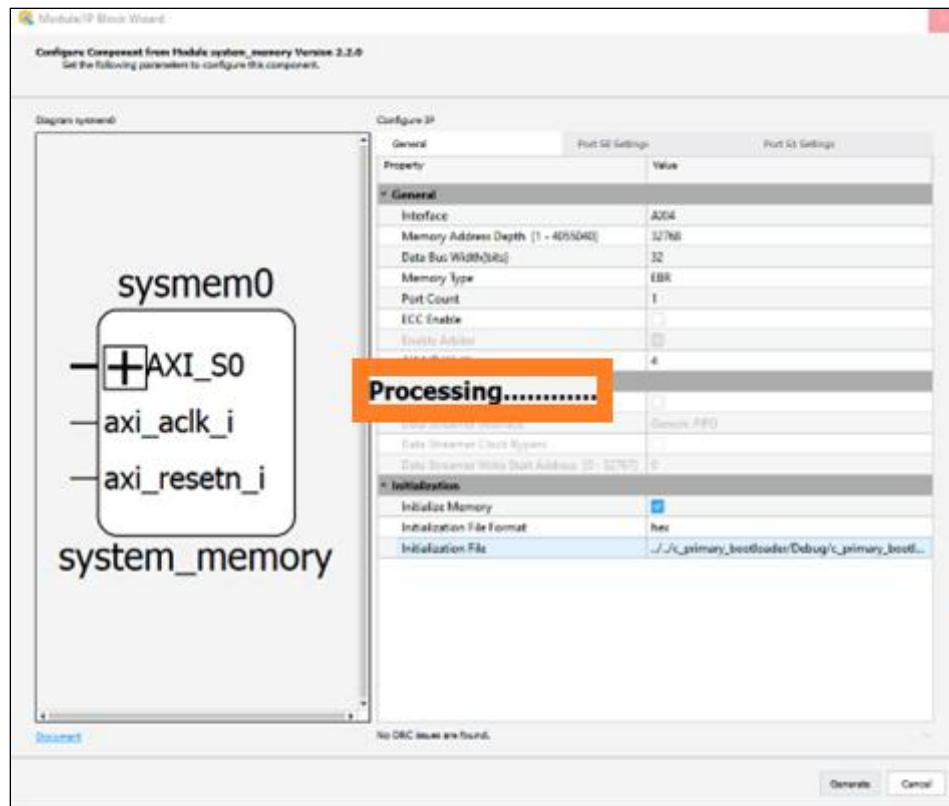

Figure 8.43. Click Generate
- Click **Generate** on the bottom-right corner of the IP Block Wizard as shown in Figure 8.43.